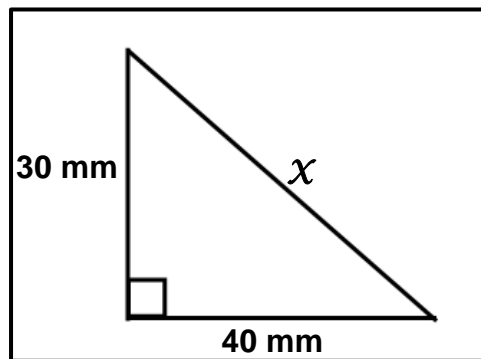

FIGURE 4.12
4.12 What is the length of X in FIGURE 4.12 below?